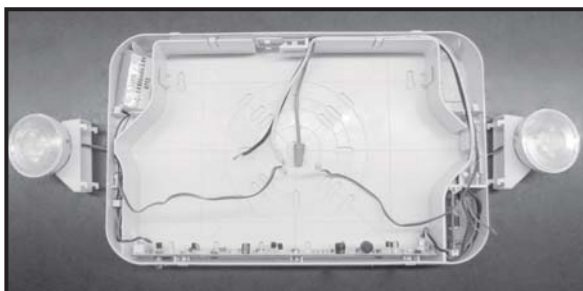
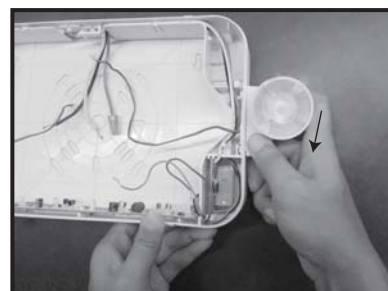

Figure 1
Figure 2
6. Feed blue and yellow lamp head wire through side lamp head mounting hole(Fig 1). Attach first lamp head to housing by aligning tabs on lamp head assembly to lamp head mounting slots on frame of housing(Fig 2). Gently push lamp head down toward bottom of housing to lock into place. An audible click should be heard. Repeat to install remaining lamp head.
8. Feed blue and yellow lamp head wire through side lamp head mounting hole(Fig 1). Attach first lamp head to housing by aligning tabs on lamp head assembly to lamp head mounting slots on frame of housing(Fig 2). Gently push lamp head down toward bottom of housing to lock into place. An audible click should be heard. Repeat to install remaining lamp head.
8. Feed blue and yellow lamp head wire through side lamp head mounting hole(Fig 1). Attach lamp head to housing by aligning tabs on lamp head assembly to lamp head mounting slots on frame of housing(Fig 2). Gently push lamp head down toward bottom of housing to lock into place. An audible click should be heard.